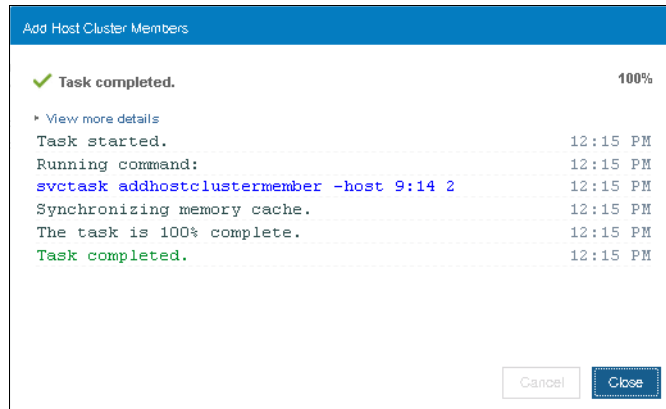

Figure 5-82 Hosts added to host cluster definition
- Click **Add Hosts** and hosts will be added to the host cluster definition as shown in Figure 5-82 on page 251.